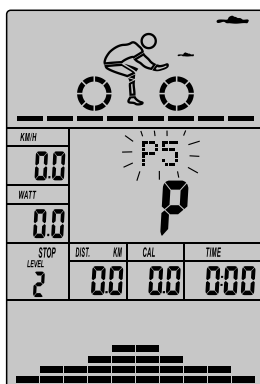

Fig 25
- Press (or rotate) button UP/DOWN to select a program that you want to run. (Fig 25)